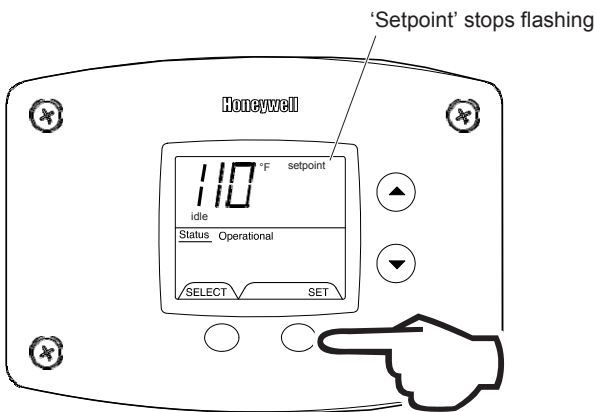

Fig. 53
- When the desired setpoint is reached on the water heater display, press the 'Set' button to confirm the new setpoint. 'Setpoint' stops flashing in the water heater display (Fig. 53).